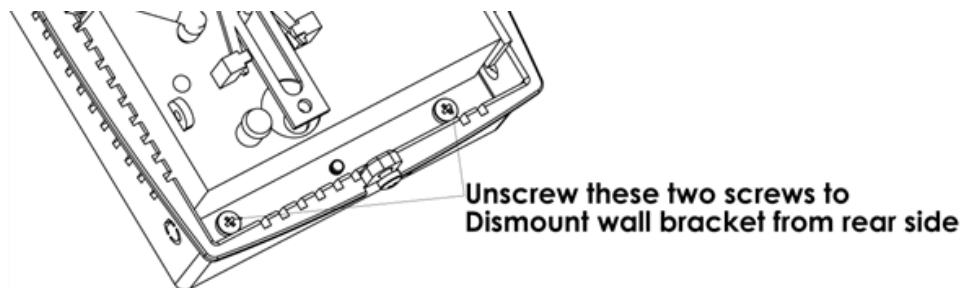

Figure 3. Removing the Universal Wall Bracket
1. If the universal wall mounting bracket is attached to WPT, remove it by unscrewing the two captive screws on the bottom of the WPT, as shown in Figure 3.